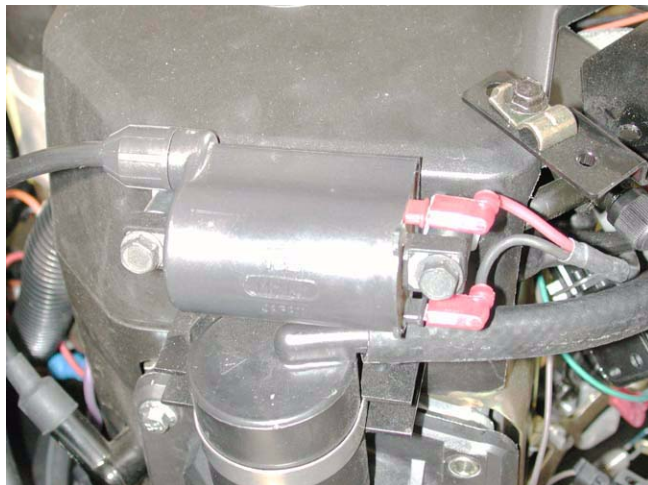

Figure 11.9
- 11.9. The ignition coils are also controlled by the ECU. Each cylinder has its own coil. See Figure 11.9.